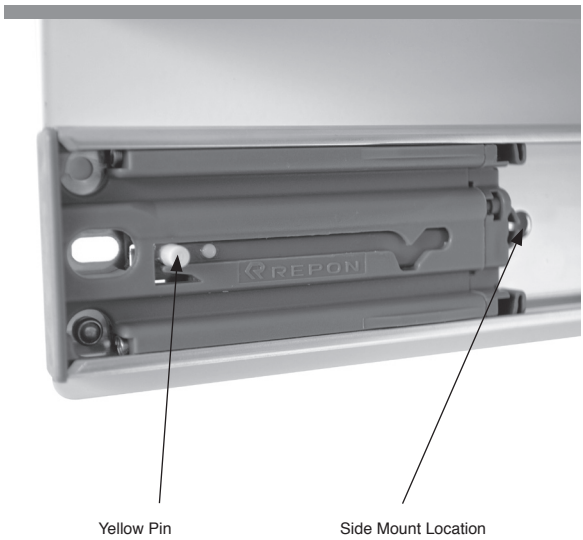

FIG 3
- Push the outer rail fully into the bin frame. The soft close device will need to be released by manipulating the yellow pin on each runner. Refer FIG 3.